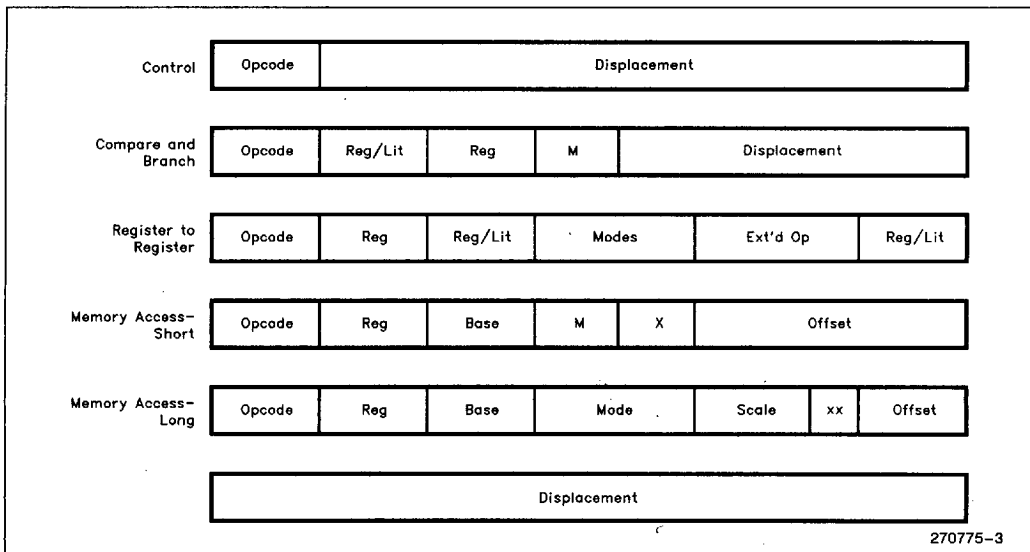

Figure 3. Instruction Formats
4. **Simple Instruction Formats.** All instructions in the 80960KA are 32 bits long and must be aligned on word boundaries. This alignment makes it possible to eliminate the instruction alignment stage in the pipeline. To simplify the instruction decoder, there are only five instruction formats; each instruction uses only one format. (See Figure 3.)